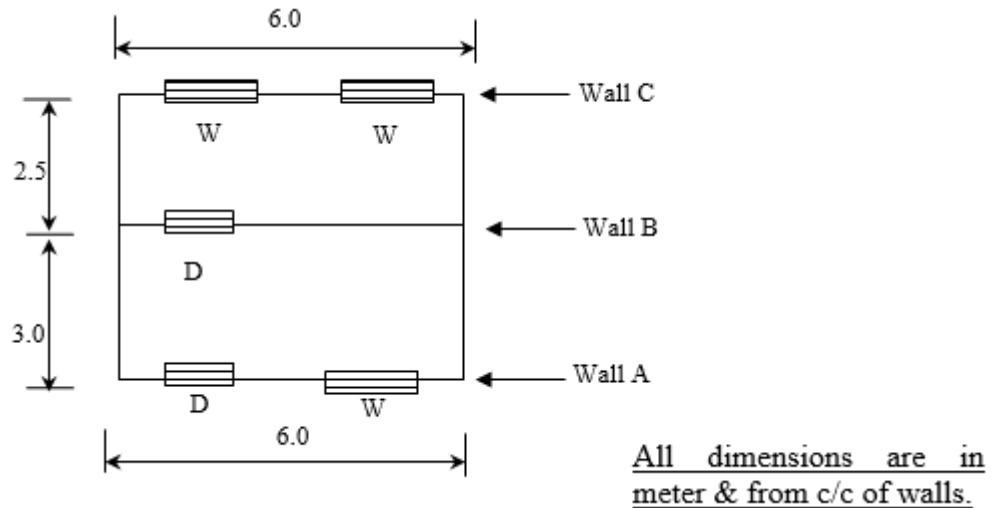

Figure 3
- Q-2(b)** **Figure 3** shows the plan of a single storey brick masonry ordinary residential building located in Bhuj. Consider all walls of 230 mm thickness. Decide the position of door (D) & window (W) and maximum size of window that can be provided in wall 'A', 'B' and 'C' considering width of door as 900 mm. Also show the necessary vertical reinforcement to be provided at the critical junctions as a part of strengthening measures. **[07]**